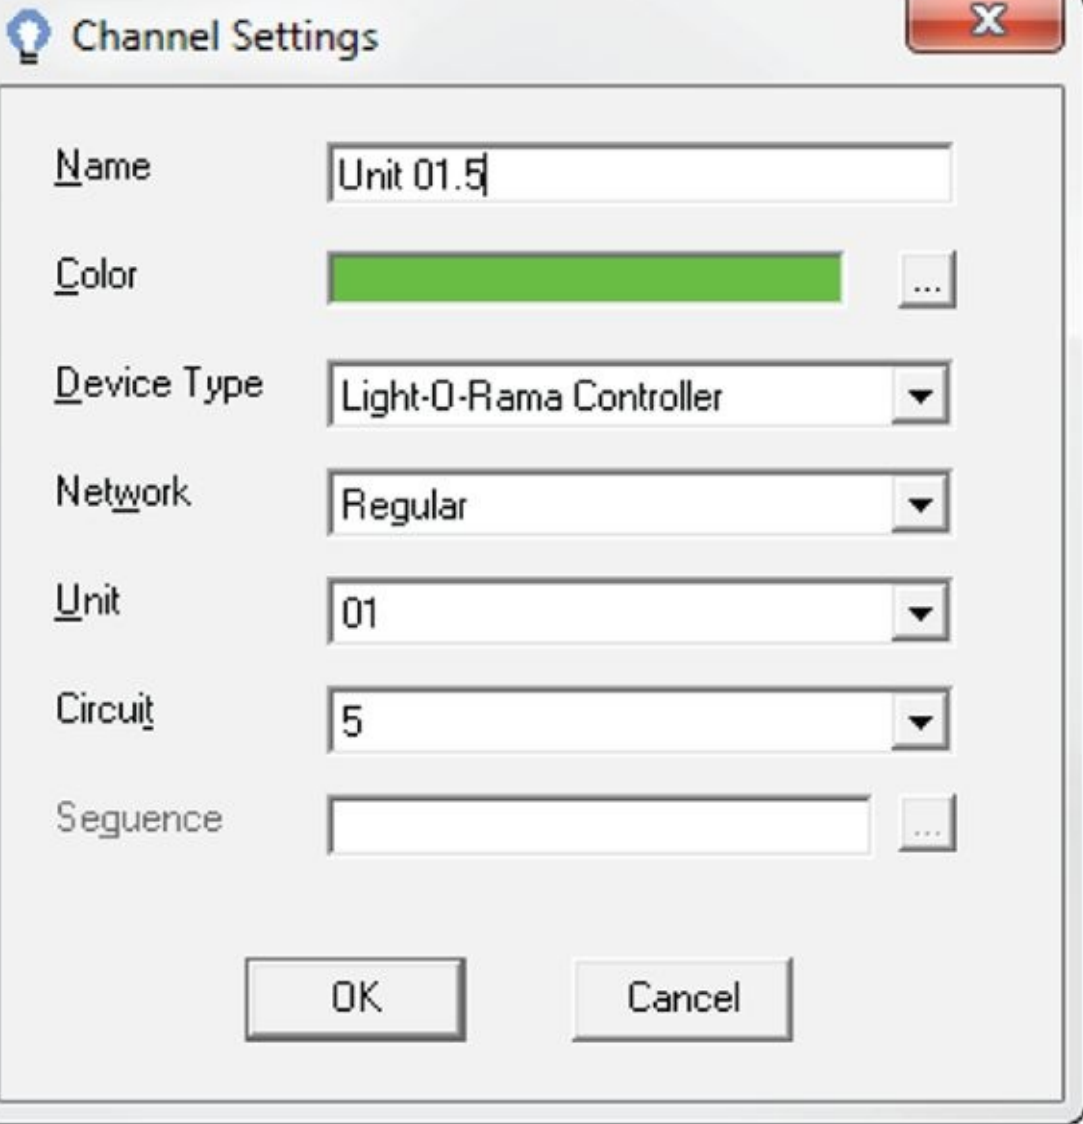

FIGURE 2-11: Changing the name or color of a row.
- You can change the name of each row and the color it's rendered in by clicking the row button in the left margin of the row. This brings up the Channel Settings dialog box shown in Figure 2-11. Although it isn't a requirement, changing the color of the row to match the color of lights displayed by the channel can help you better visualize the show, and changing the name of the channel makes it a lot easier to keep track of how the channels are used in your show.